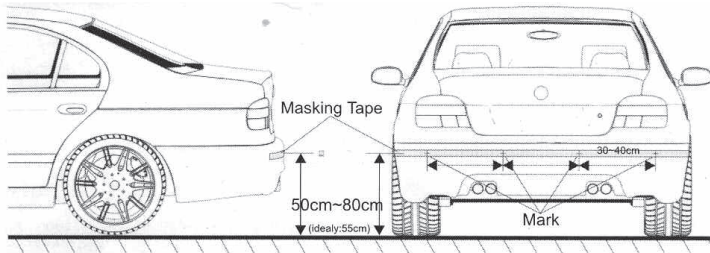

Fig. 3
2. Use masking tape to mark the straight line on your bumper, and use a pencil to mark on the masking tape where the holes are going to be drilled. See Figure 3.